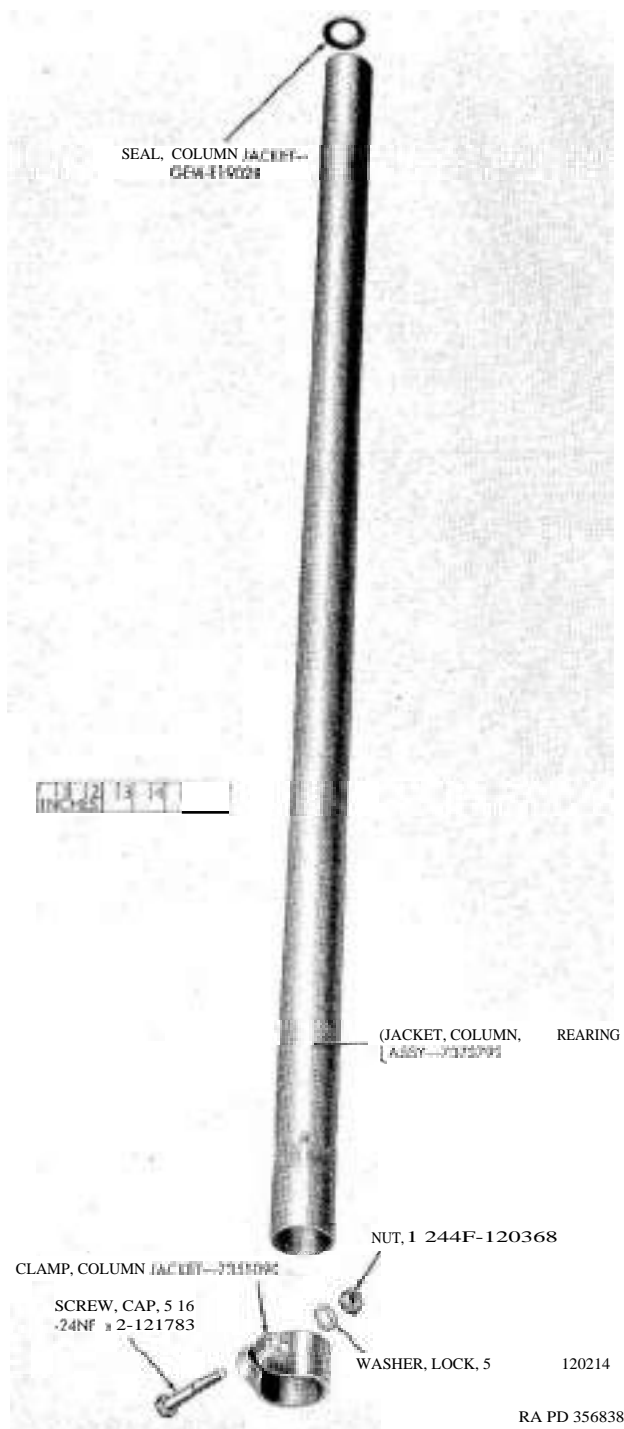
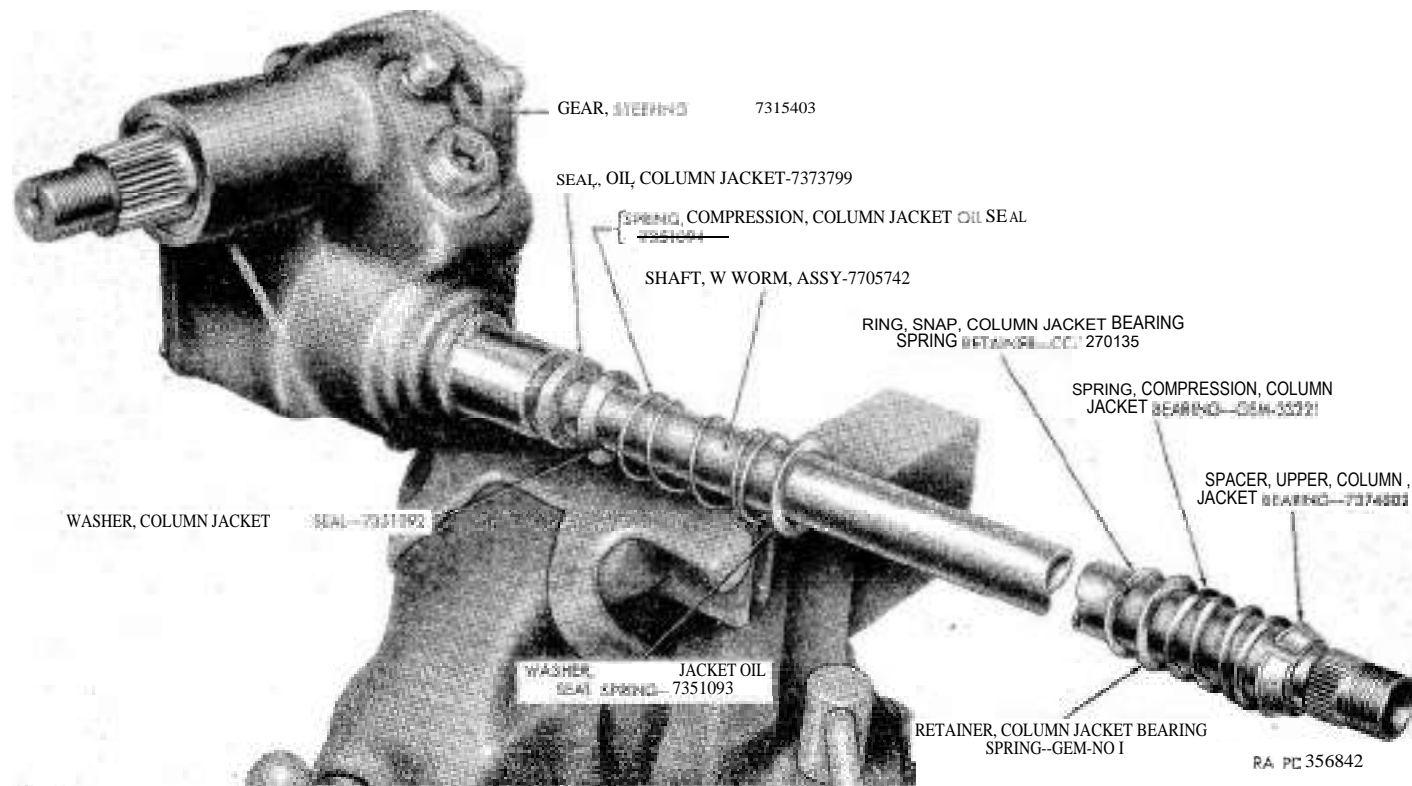

Figure 164. Column jacket and related parts.
Figure 169. Proper location of column jacket parts.
- (1) Inspect column jacket with bearing assembly (fig. 164) for damage or cracks. If either of these conditions exist, replace jacket assembly. Inspect ball bearing assembly at upper end of jacket and if it is not in good condition, replace jacket assembly. Inspect column jacket seal at upper end of jacket and replace if worn or damaged (pars. 183 and 185).
- (1) Soak new column jacket oil seal (*fig. 169*) in universal gear lubricant (GO) . Install seal on column shaft against steering gear housing. Install column jacket oil seal washer with cupped surface toward seal, followed by column jacket oil seal compression spring and column jacket oil seal spring washer.
- (2) Install column jacket bearing spring retainer snap ring in groove at upper end of column shaft. Install column jacket bearing spring retainer on column shaft, followed by column jacket bearing compression spring and column jacket bearing upper spacer. Make certain flanged end of spacer is down.
- (3) Lubricate ball bearing at top of column jacket with universal gear lubricant (GO) . Install column jacket seal (*fig. 164*) in upper end of column jacket (counterbore side out) . Place column jacket clamp on lower end of column jacket (*fig. 164*) . Install column jacket with bearing assembly on steering gear. Install 5/16-24NF x 2 cap screw through column jacket clamp ; then install 5/16-inch lock washer and 5/16-24NF nut. Locate end of column jacket approximately one-eighth of an inch from shoulder on steering gear housing. Tighten nut on cap screw in column jacket clamp.